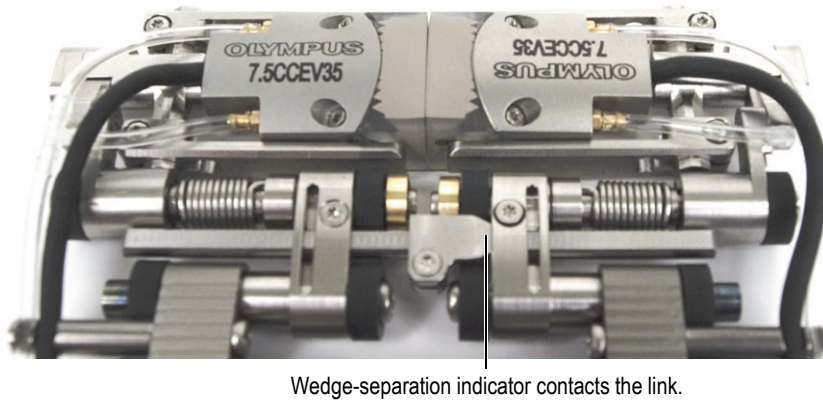

Figure 2-26 Bringing the wedge faces together
5. Slide both sides of the scanner together until the wedge faces touch each other (see Figure 2-26 on page 52).
6. Slide the crossbar(s) to the right so that the wedge-separation indicator(s) makes contact with the right-hand link (see Figure 2-26 on page 52).